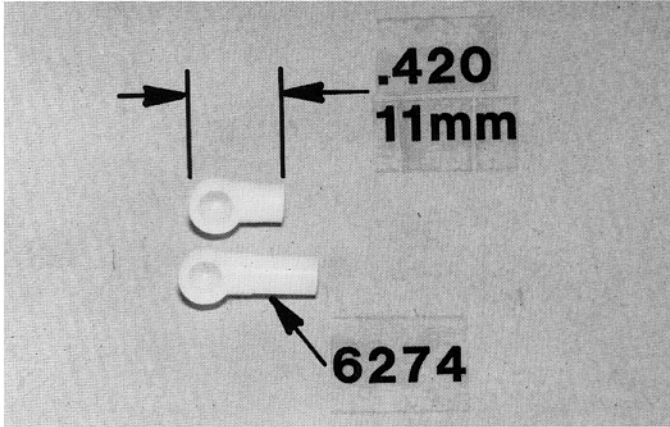

Fig. 38
□ **Fig. 38**—Take the two #6274 plastic ball cups and shorten both with an Exacto knife to the dimension shown.